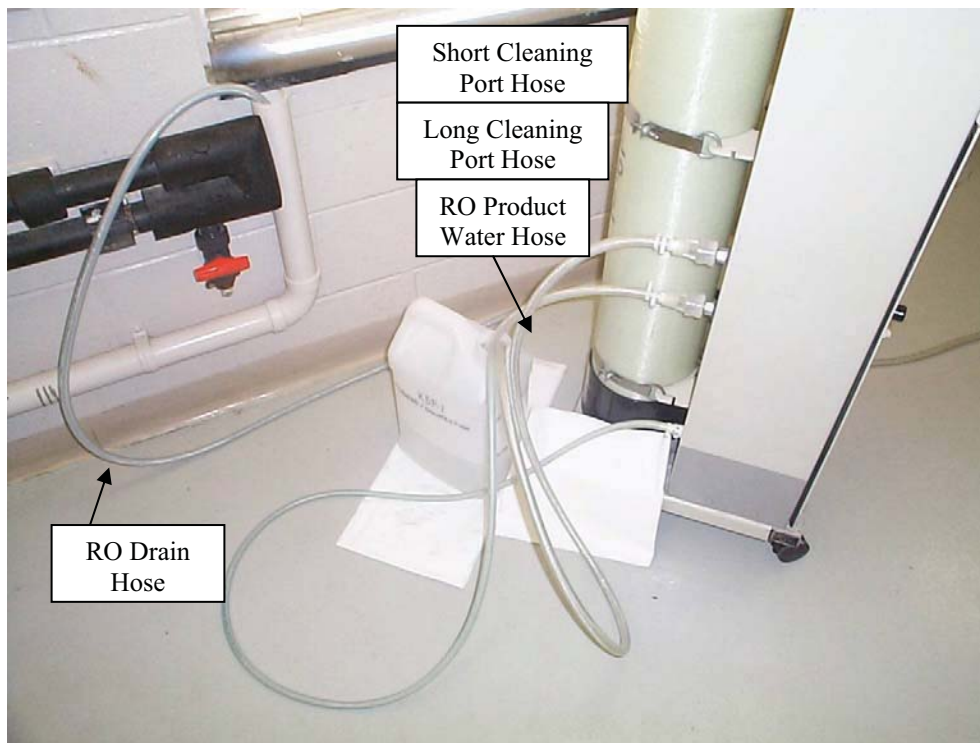

Figure 2
10. **Refer to Figure 2** Remove the free ends of both the Product Water Line and the Long Cleaning Port Hose from the drain and place them in the jug under the surface of the disinfection solution.